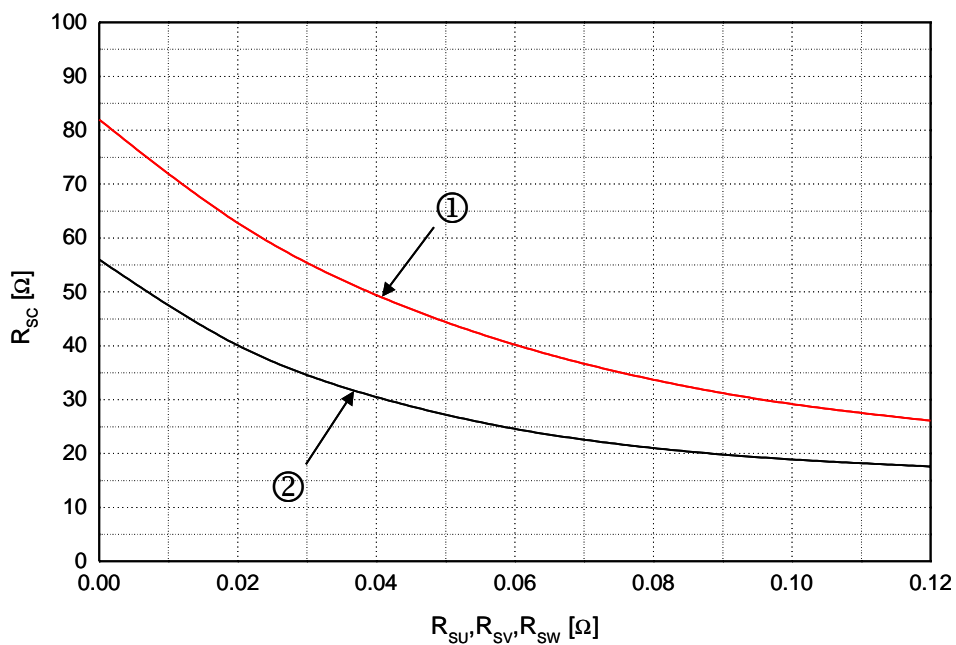

Fig. 6. R_{sc} Variation by change of Shunt Resistors (R_{SU}, R_{SV}, R_{SW}) for Short-Circuit Protection
- Short-circuit current protection is functioning only at the low-sides. It would be recommended that the value of the external sensing resistor (R_{SC}) should be selected around 56 Ω in order to make the SC trip-level of about 15A at the shunt resistors (R_{SU}, R_{SV}, R_{SW}) of 0 Ω . For the detailed information about the relationship between the external sensing resistor (R_{SC}) and the shunt resistors (R_{SU}, R_{SV}, R_{SW}), please see Fig. 6.
9. For the use of shunt resistors (R_{SU} , R_{SV} , R_{SW}), please see Fig. 6 in order to select the proper R_{SC} .